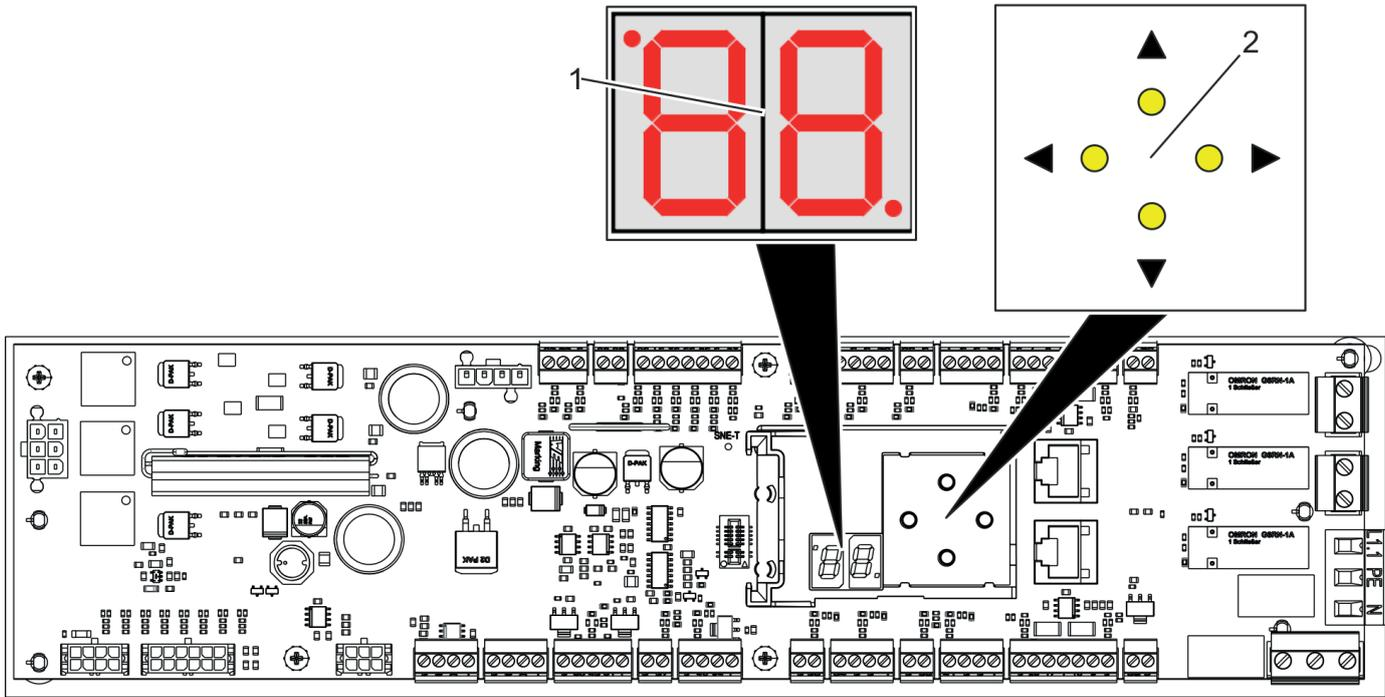

Fig. 136 Controller
The following phases are passed through during the learning cycle depending on the options ordered and are shown on the controller display (Fig. 136/1) as follows:
- ▲: Display and operation (Fig. 136/1 + 2) inverted.
- ▼: Display and operation (Fig. 136/1 + 2) remain unchanged.